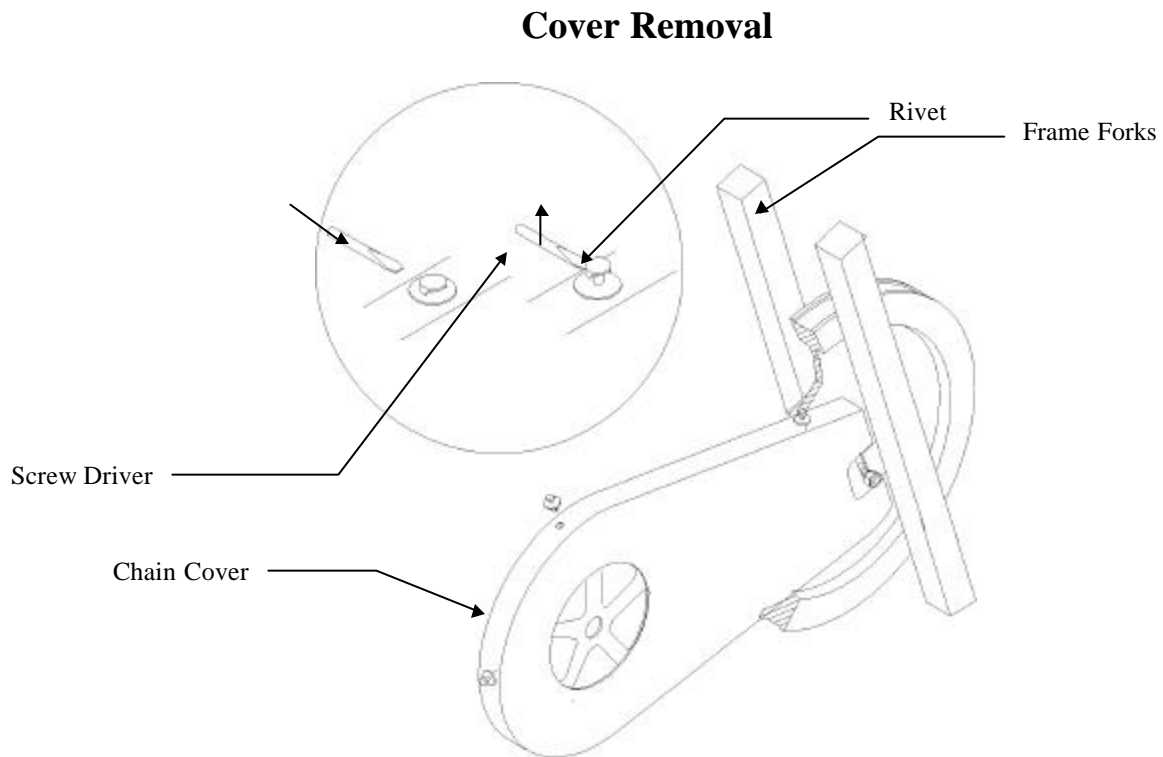

Figure 11
2. Gently pry the head up (Figure 11).